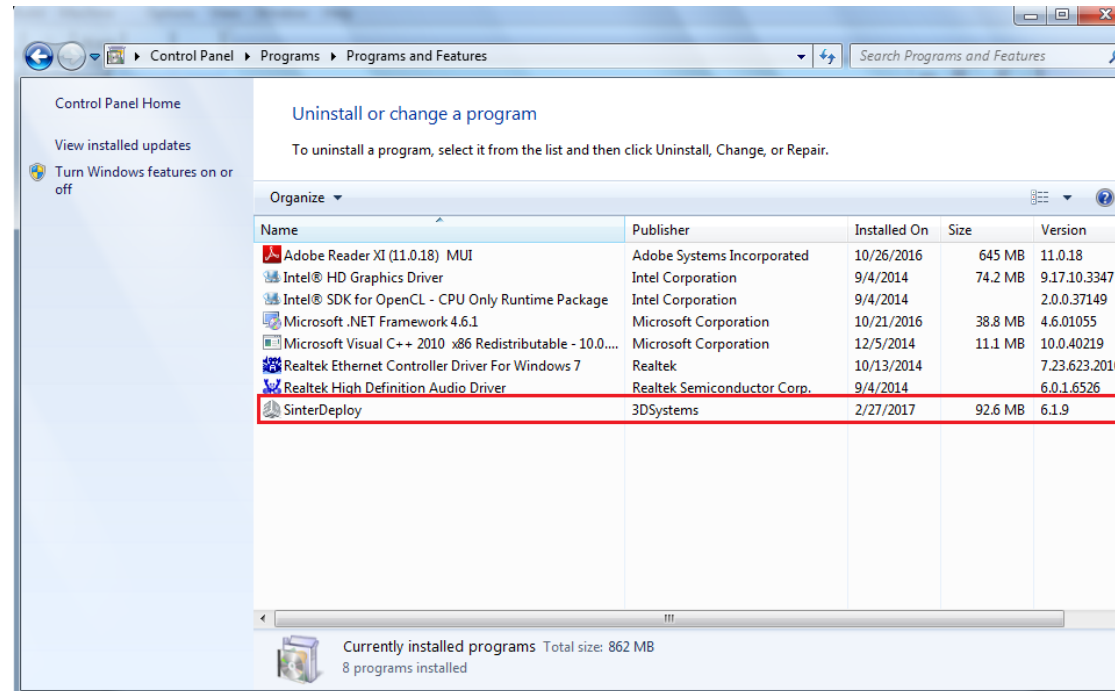

Figure 5
9. After installation is complete, open “Control Panel” >> “Programs and Features” and verify that the installed **SinterDeploy** has correct version – **6.1.9** (Figure 5).